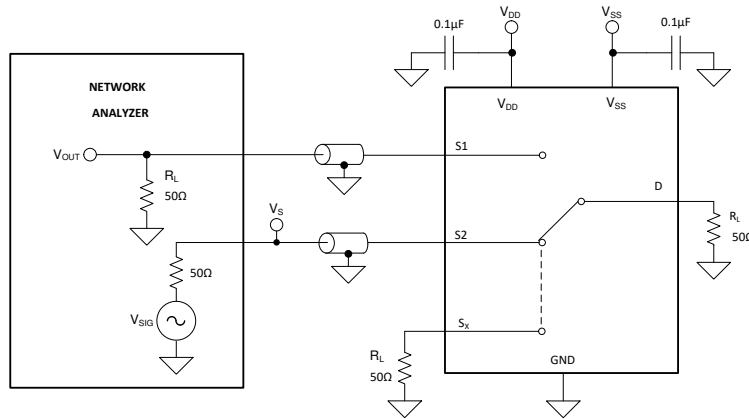

Figure 7-9. Crosstalk Measurement Setup
Crosstalk is defined as the ratio of the signal at the drain pin (D) of a different channel, when a signal is applied at the source pin (Sx) of an on-channel. Figure 7-9 shows the setup used to measure, and the equation used to compute crosstalk.